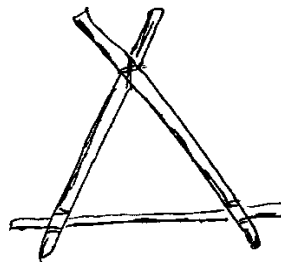

Figure 3.1: Triangle
1. The strongest shape in Pioneering is the triangle (Figure 3.1). The two side poles are lashed to the base first using a square lashing. The two side poles are then pulled together and a Diagonal Lashing is used to bring the two sides together. It is important to make sure that the shape is correct for a standing triangle.